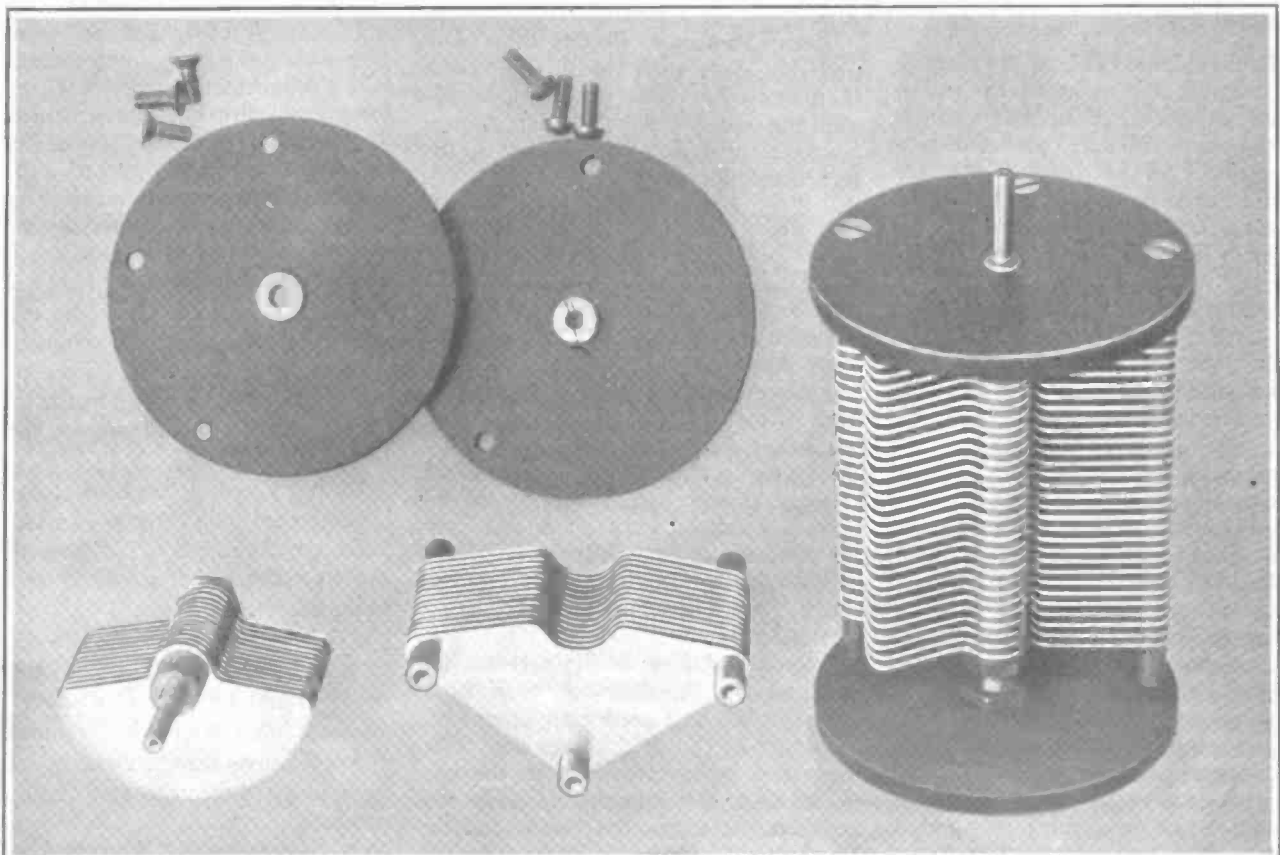

Fig. 1. The fixed and variable plates form complete units of great mechanical strength. End plates of solid bakelite prevent losses even at high frequencies
**W**HEN the condensers shown in Fig. 1 were brought into the office of the *MAGAZINE*, someone suggested that, if they were really as strong as it was claimed, they should stand two tests—first, that a man could stand on them, and, second, that they should not be injured when dropped at an angle from waist height in such a way as to land on the edge of the bottom end plate.
The reason for this unusual strength is shown in Fig. 1, where a 0.0005 type is disassembled, with a complete 0.001 mfd. condenser at the right. The fixed plates, of 1/32-in. aluminum, are assembled on 10-32 screws, which are threaded into brass end pieces. In this way the fixed plates are assembled into a complete unit, independent of the end plates. This unit, with the heavy plates, washers, and assembly screws, is of great rigidity.